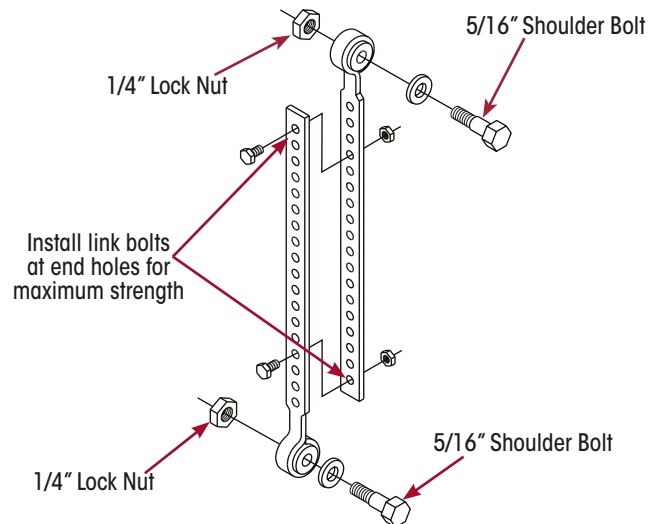

Figure 186: Assembling HCV Linkage
4. Attach the height control valve linkage. Fasten one end of the linkage to the height control valve control arm and the other end to the suspension beam. Tighten the 1/4-inch locking nut onto the 5/16-inch shoulder bolt until snug. Do not overtighten bolts. The washers and pivots must be able to rotate freely. Trim (if necessary) and bolt the two linkage halves together at the appropriate length to hold the height control valve arm in the neutral position when the suspension is at the designed ride height. Refer Figure 186: